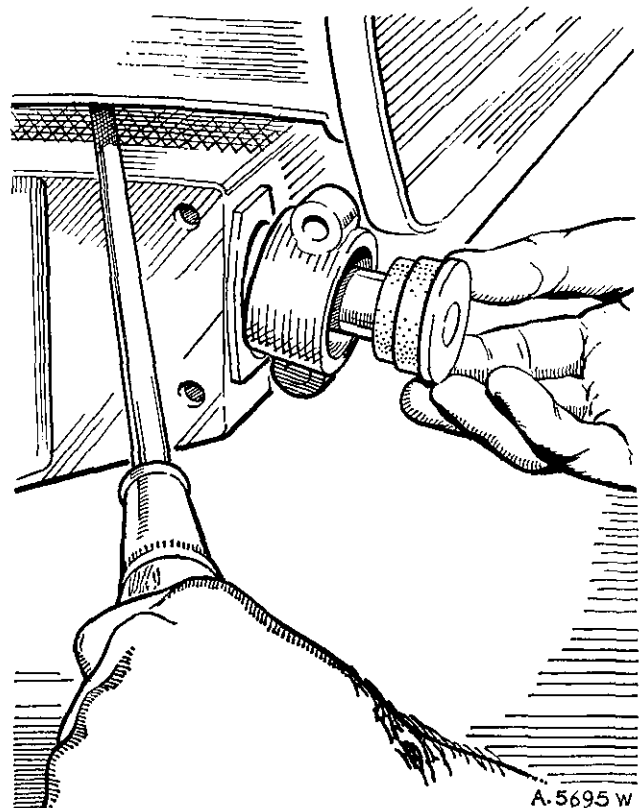

Fig. H.3
- (2) Remove the radius arm (Section H.2).
- (3) Unscrew and remove the nut securing the mounting support pin to the sub-frame (Fig. H.3). Withdraw the mounting block to body screws. Prise the body and sub-frame apart sufficiently to allow the support pin, blocks, and rubbers to be extracted.